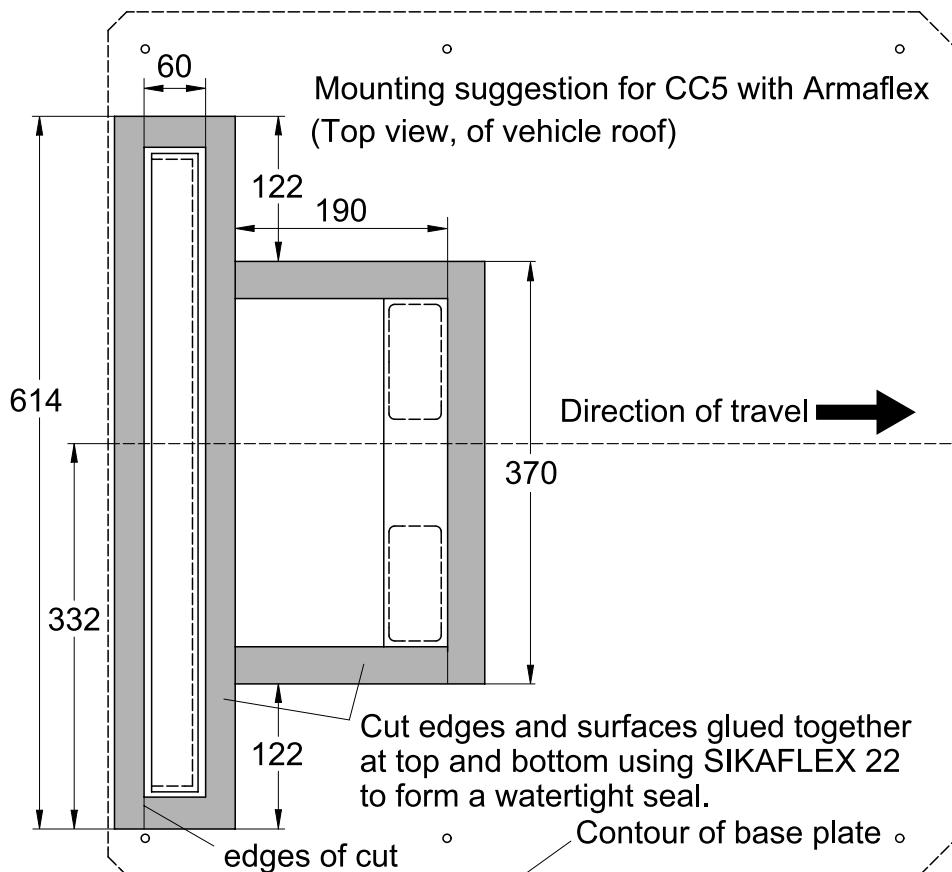

Fig. 4.8
A weatherseal is to be produced using the supplied sealing strips (see Fig. 4.8) for curved roofs or roofs with beads and channels
- c) Affix the sealing strip to the roof as shown in Fig. 4.8 using the Sikaflex 221 supplied in the installation kit.